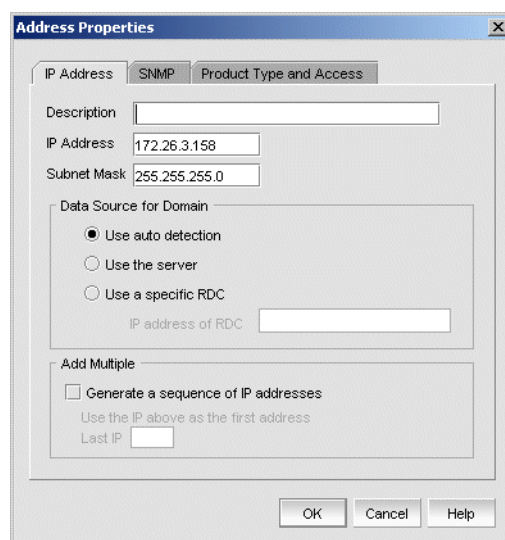

Figure 2-24 Address Properties Dialog Box (IP Address Page)
2. Click *Add*. The *Address Properties* dialog box appears with the *IP Address* page open by default (Figure 2-24).